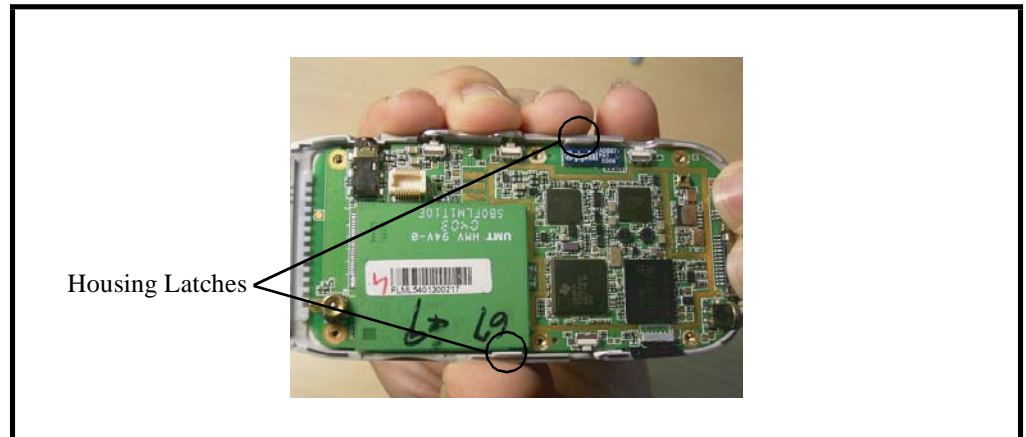

Figure 23. Partially Removing the Lower PCB
2. Lift the lower PCB up from the rear housing by releasing the housing latches on each side of the rear housing and pushing the keypad below the lower PCB upward as shown in Figure 23.